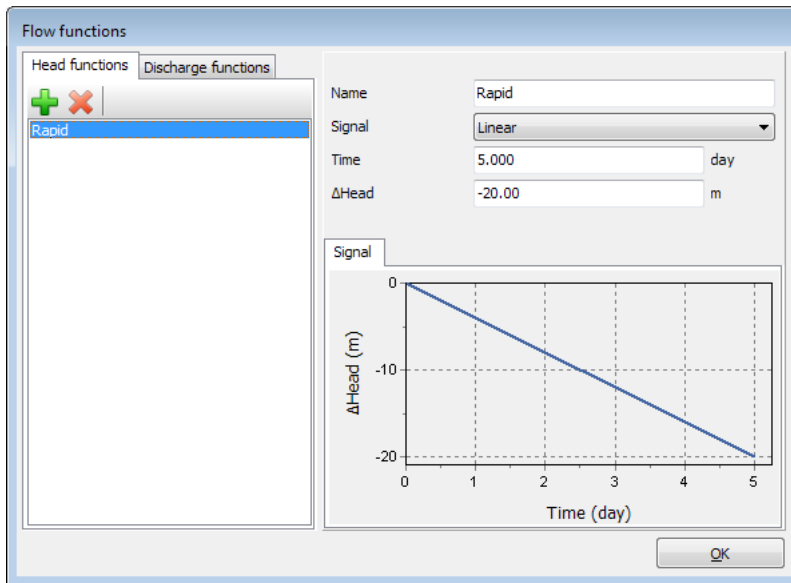

Figure 8.8 The flow function for the rapid drawdown case
- Assign a value of -20 m to  $\Delta Head$ , representing the amount of the head decrease. A graph is displayed showing the defined function (Figure 8.8).